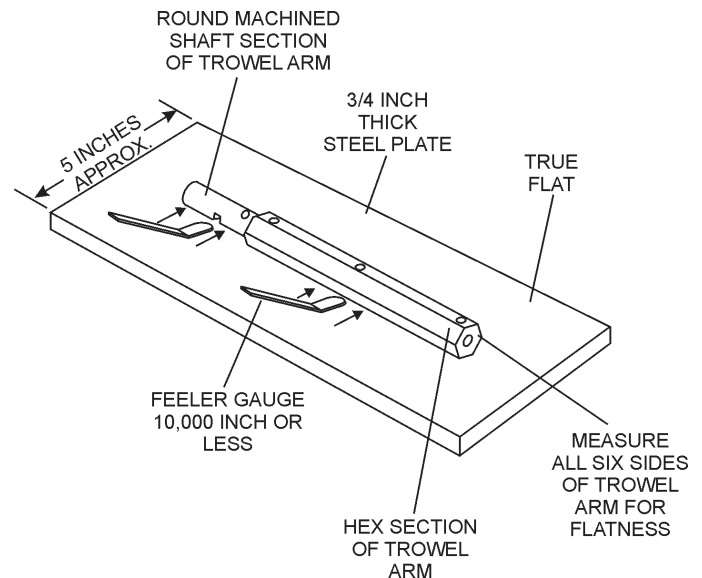

Figure 46. Trowel Arm Flatness Test
- Check each of the six sides of the trowel arm (hex section only) using a ten thousands of an inch (max.) feeler gauge (Figure 46) between the flat of the trowel arm and an **extremely flat** test surface.